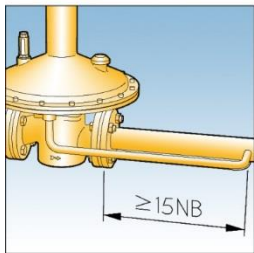

Fig. 2
2. Connect the impulse line (1/2"), using a jointing compound approved to national standards, and lead to a point downstream not less than fifteen times the nominal pipe diameter from the outlet. See Fig. 2.